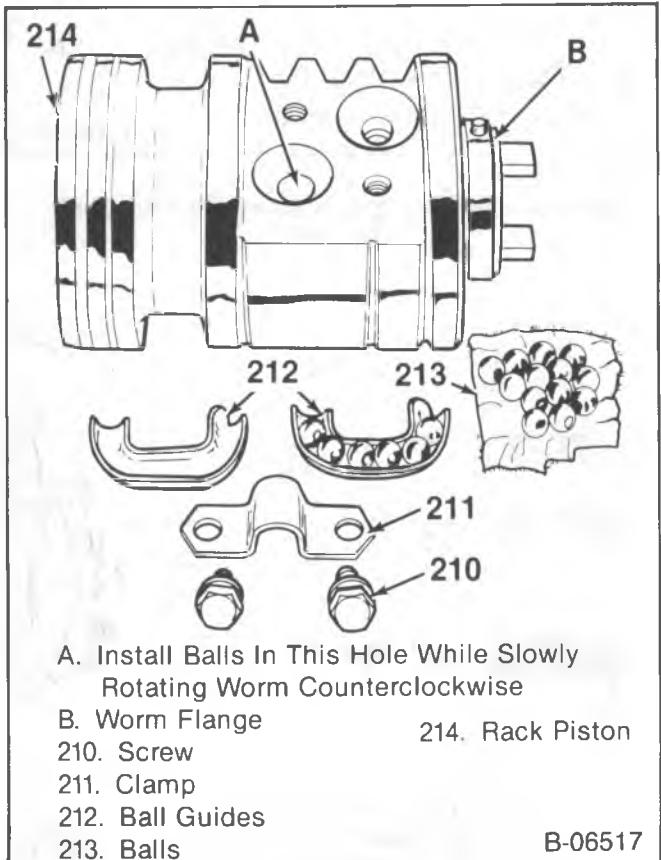

Figure 12—Installing the Balls into the Rack Piston
1. Balls (213), alternately by color, in the rack piston (214) (figure 12). Use J 21552 in the rack piston.